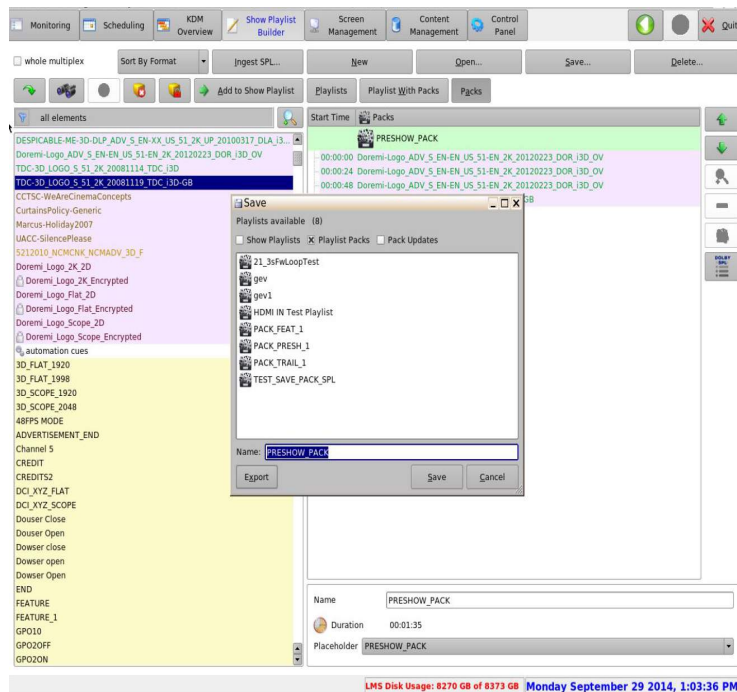

Figure 6: SPL Pack Added
- An item representing the name of the pack will be added and highlighted in green (Figure 6).